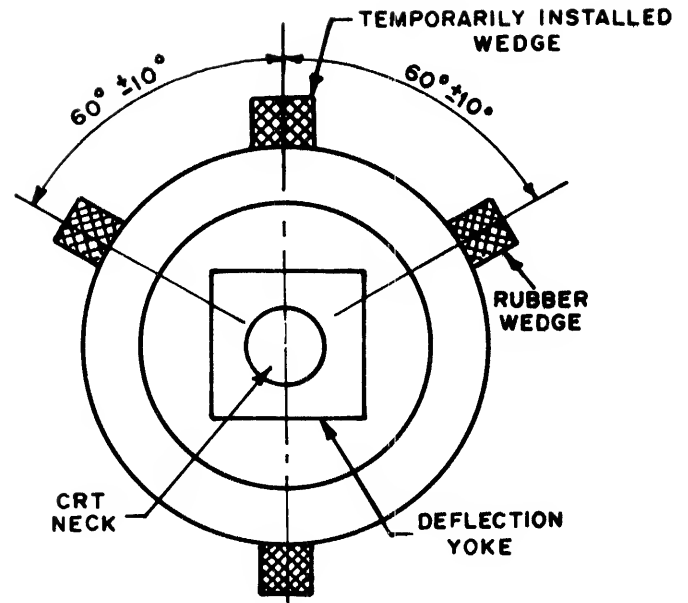

FIGURE 7
4.0 PRECISE ADJUSTMENT OF DYNAMIC CONVERGENCE (See Fig. 7, 8 and 9)
- 4.3 Insert three rubber wedges to the position as shown in Fig. 7 to obtain the best circumference convergence.
- 4) The position of each rubber wedge is shown in Fig. 7.